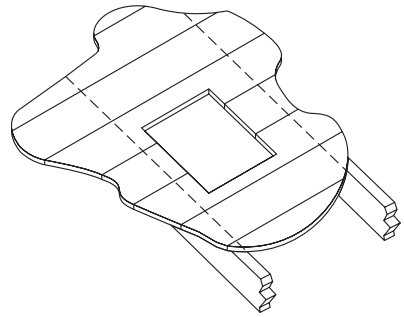

Figure 19
5. Remove shingles or other roof covering as necessary to cut the rectangular hole for the Support Box. Cut the hole 1/8-inch larger than the dimensions of the Support Box. (**Figure 19**). The rectangular hole should be centered on the